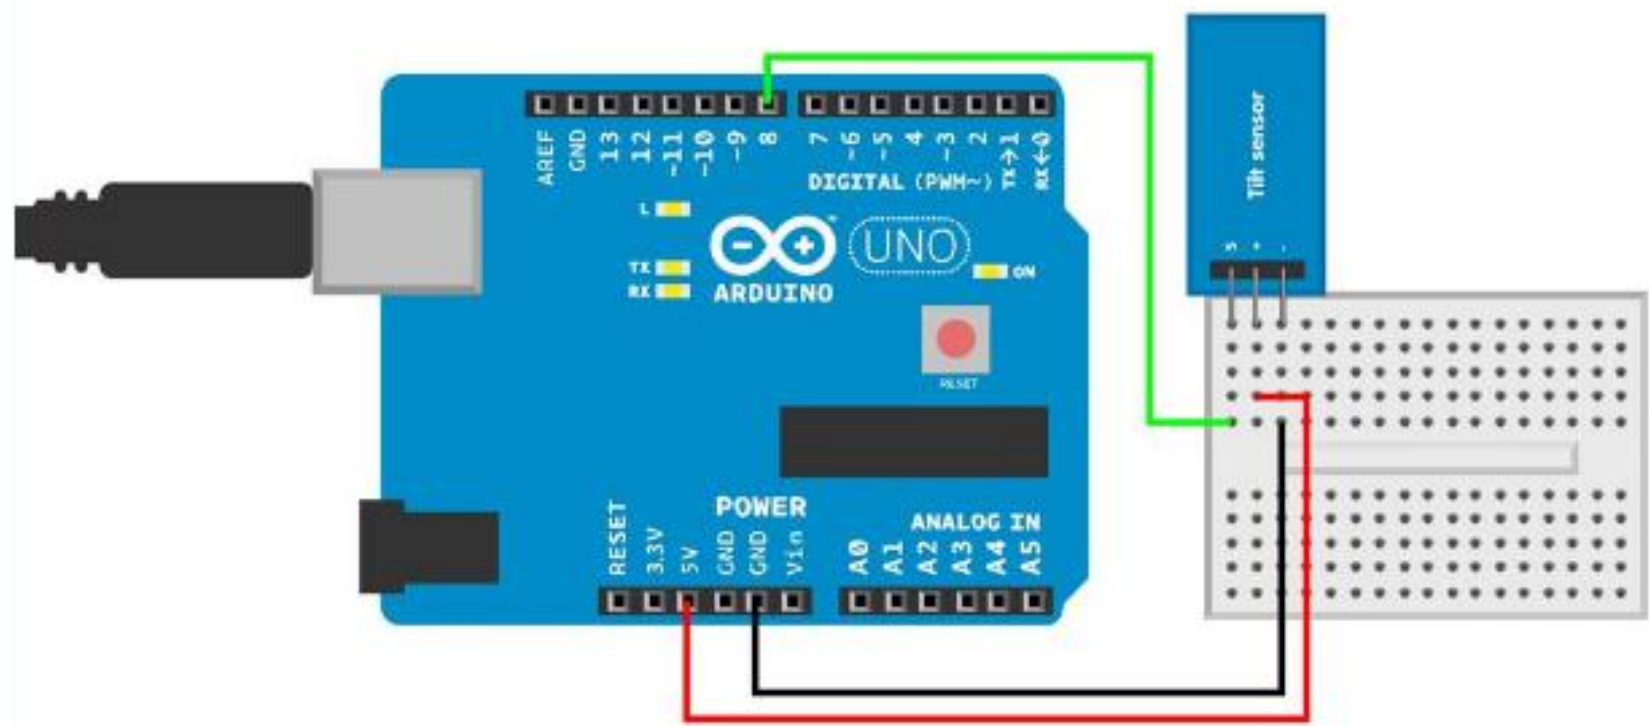

Figure 6-2. Tilt sensor circuit for Arduino
- Figure 6-2 shows the circuit diagram for an Arduino-based tilt sensor. Build it, and then run the code shown in Example 6-1.